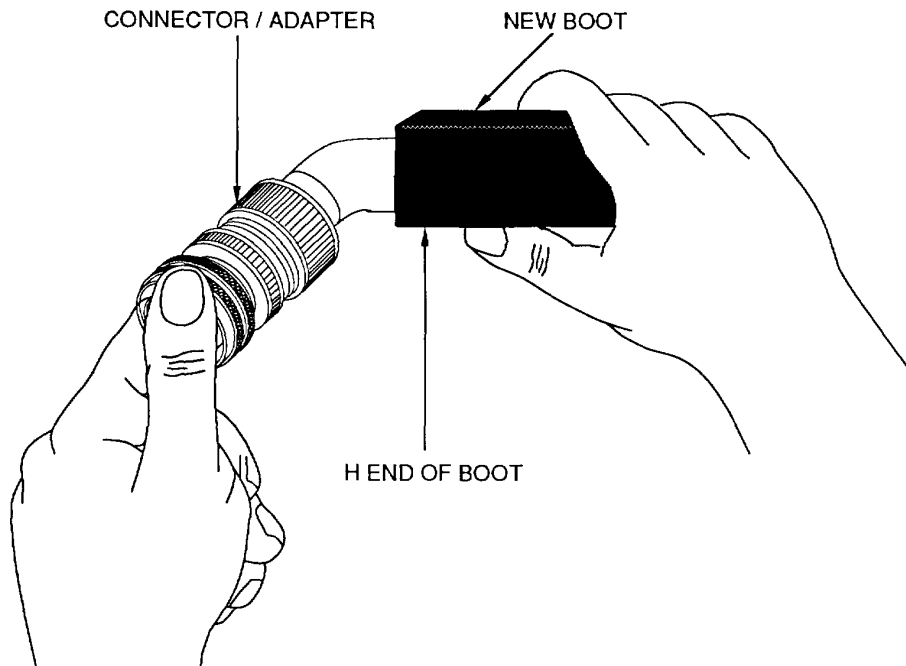

Figure 13. Shrinking Toward Cable End
h. Slide new boot over harness and position boot over connector or adapter. Ensure end of boot marked H is toward connector and J is toward cable jacket (Figure 13).